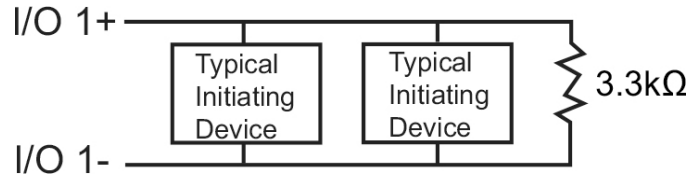

Figure 11: Class B detector-only wiring
1. Route the wiring from IO1+ and IO1- on TB1 of the Zone/Relay Module to the appropriate inputs on the first device. See Figure 11.